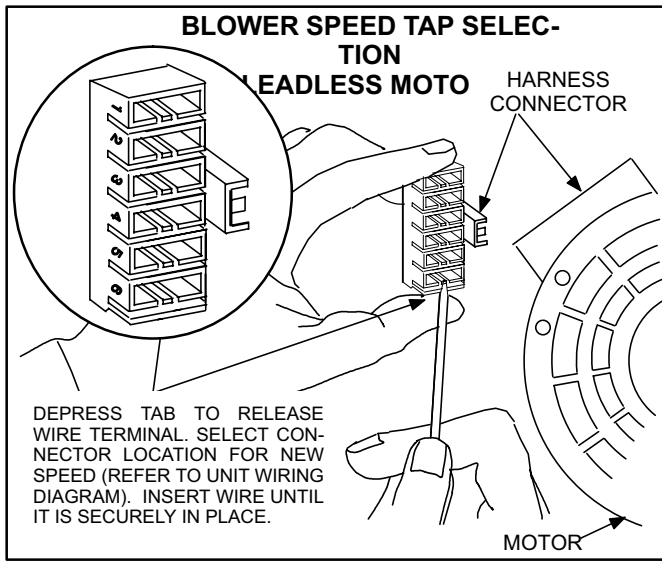

FIGURE 44
- 6 - Depress harness connector tab to release wire terminal. Select connector location for new speed (refer to unit wiring diagram). Insert wire terminal until it is securely in place. See figure 44.